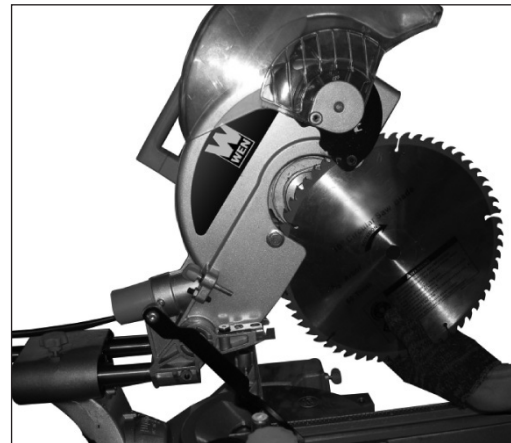

Fig. 7
4. Raise the Blade Guard and Center Cover (Fig. 7).